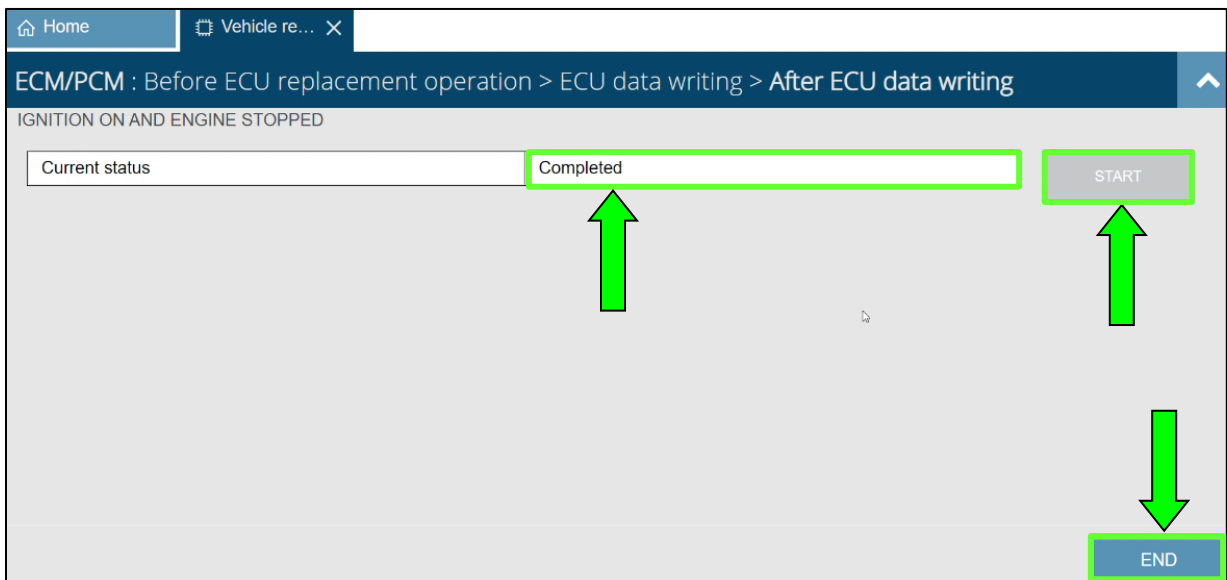

Figure 23
24. When the screen shown in Figure 23 is displayed, select **START**, wait for the status to change to **Completed**, and then select **END**.